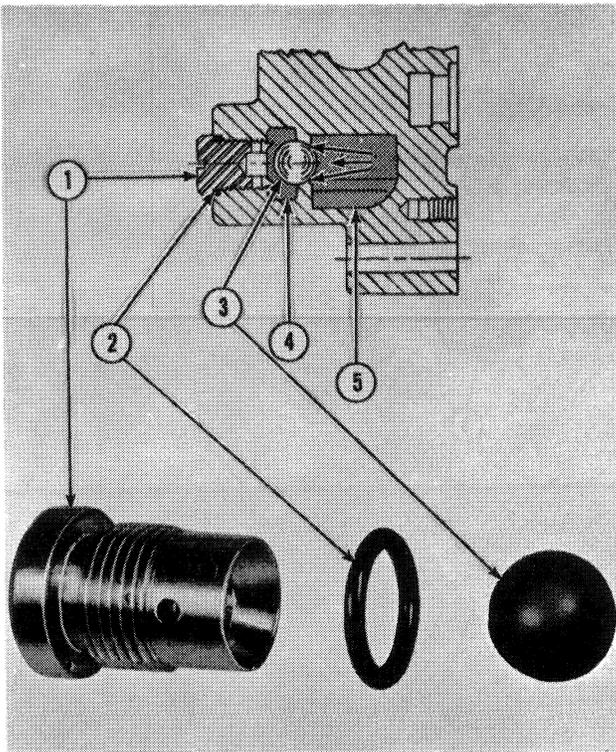

Figure 8
The anti-cavitation valve, Figure 8, is located between the bucket cylinder piston end port (4) and the return oil passage (5). During the dump cycle, oil can be forced out of the rod end of the cylinder faster than the pump can supply oil to the piston end of the cylinder. A void will be formed in the piston end of the cylinder if oil supply is not sufficient. To supplement pump oil, return oil is recycled to the cylinder piston end port.